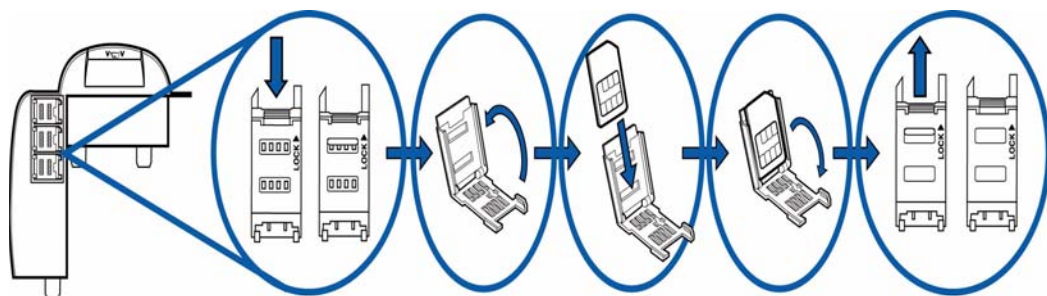

Figure 20 Installing SAMs in the SAM Cardholder
- 2 Unlock and open the desired SAM card holder (Figure 20).